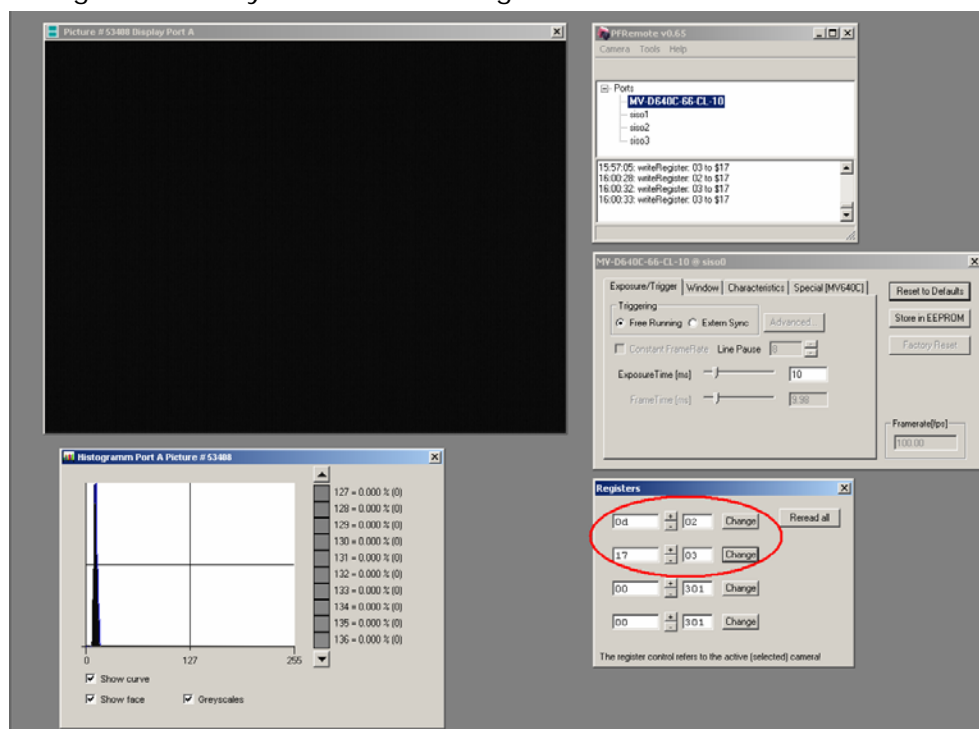

Figure 24: Screenshot to adjusting the black level offset
8. Change register 0x17 in such a way, that the low grey levels are not saturated black (see Figure 24).